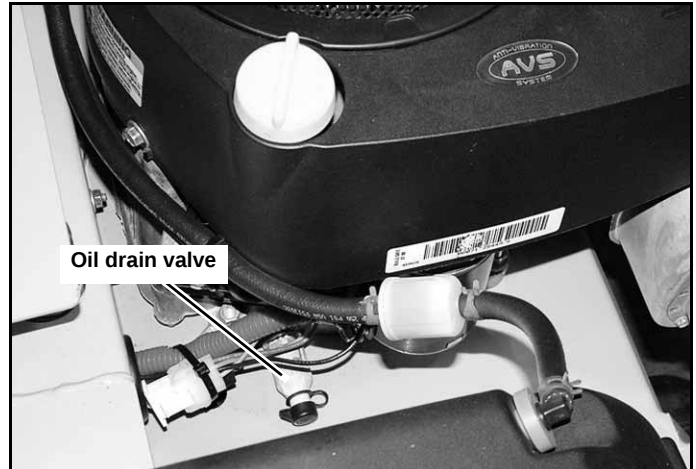

Figure 5-1
Draining the engine oil (units equipped with oil drain valve as shown in Figure 5-1):
3. Locate the oil drain hose that was supplied with the machine. Be sure to clean and clear it of debris that might block the flow of the engine oil. Figure 5-1